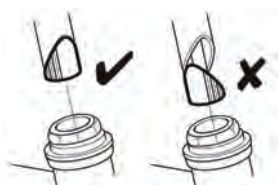

Fig.1 Wedge Nut on the end of the Stem.
- Step 1.** Before you begin check that the Wedge nut on the end of the Stem is in the correct position as shown in **Fig.1**